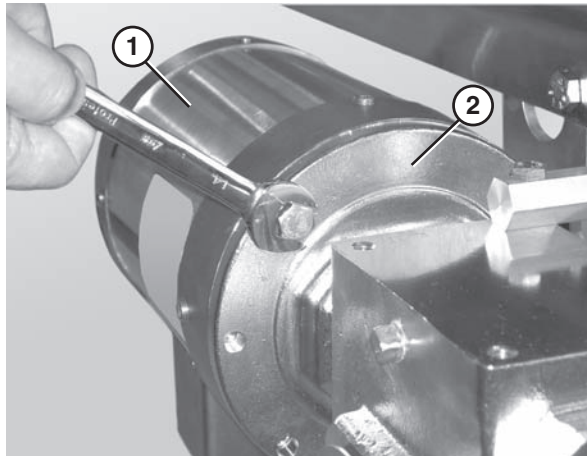

Figure 53
- Remove the bolts that connect the motor to the drive assembly (**Figure 53**).
- Remove the motor (**Figure 53, item 1**) from the drive assembly (**Figure 53, item 2**).